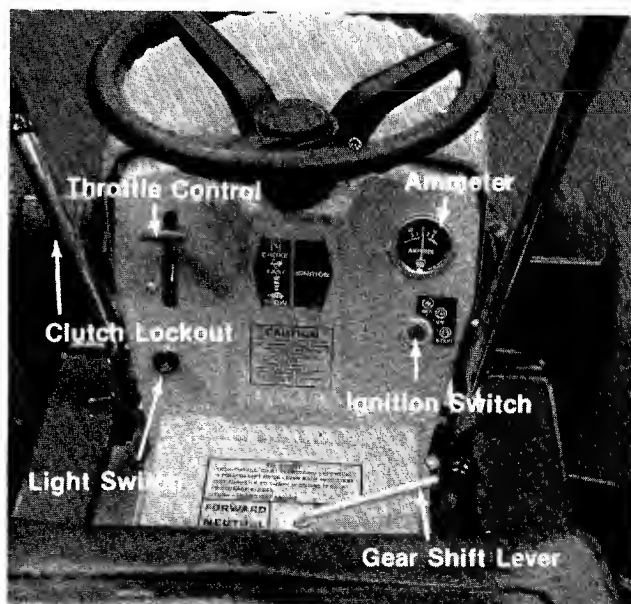

FIGURE 7. CONTROLS
a. Throttle Control. The throttle control is used to regulate the engine speed and choke the engine. The engine should be operated from $\frac{3}{4}$ to full throttle when operating the cutting deck or snow thrower (optional). See figure 7.
b. Gear Shift Lever. The gear shift lever is used to shift into one of four **Forward Gears**, **NEUTRAL** or **REVERSE**. See figure 7.
h. **Ammeter. (Electric Start Model Only)** The ammeter registers the rate of battery charge or discharge. The ammeter should register on the plus side (+) when the engine is running the fast position until the battery is completely charged. With a fully charged battery or with the engine idling the ammeter will not show a charge. See figure 7.
i. **Light Switch. (Electric Start Only)** Pull the light switch out to turn on the lights. The lights will only operate when the engine is running. See figure 7.
Electric Start. See figure 7. Turn the key to the START position to start the engine. When the engine is running, let the key return to the ON position. To stop the engine, turn the key to the left to the OFF position and remove it to prevent accidental starting.
Step 4. Set the throttle control in the CHOKE position. See figure 7.
See figures 7 and 15. Turn the ignition key to the START position. When the engine is running, let the key return to the ON position.